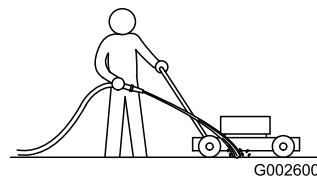

Figure 21
1. With the engine running on a flat paved surface, spray a stream of water in front of the **right** rear wheel (Figure 21).